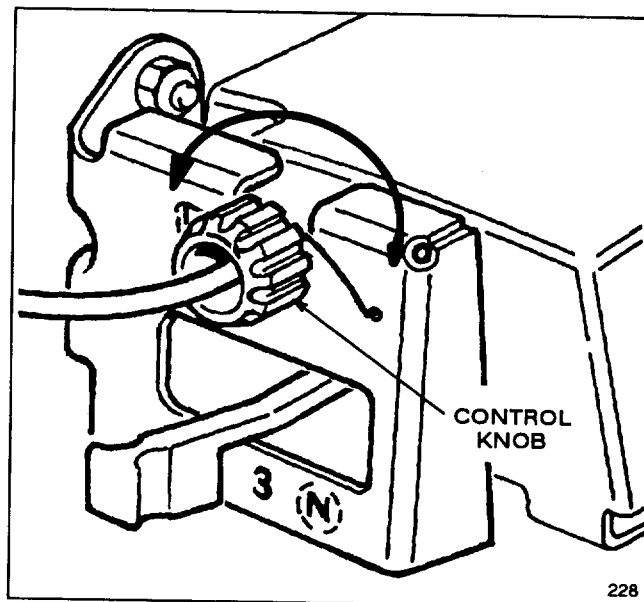

Figure 23
2. **ADJUSTMENT** (Fig. 23)—Rotate control knob clockwise 1/2 turn if mower does not self-propel.